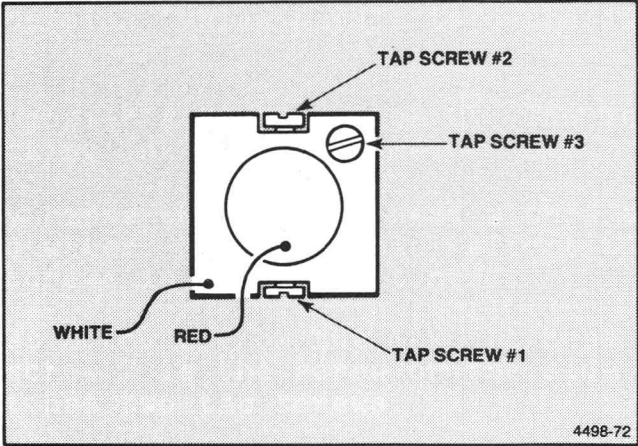

Figure 8-6. Ink Jet Head Tap Screw Locations.
18. Remove tap screw 2 from the ink jet head (see Figure 8-6). Tap screw 2 is the screw on the side of the ink jet head that has two tap screws.
21. Remove tap screw 1 (see Figure 8-6). Tap screw 1 is located on the opposite side of the ink jet head from tap screw 2. It is the only tap screw on this side of the ink jet head.